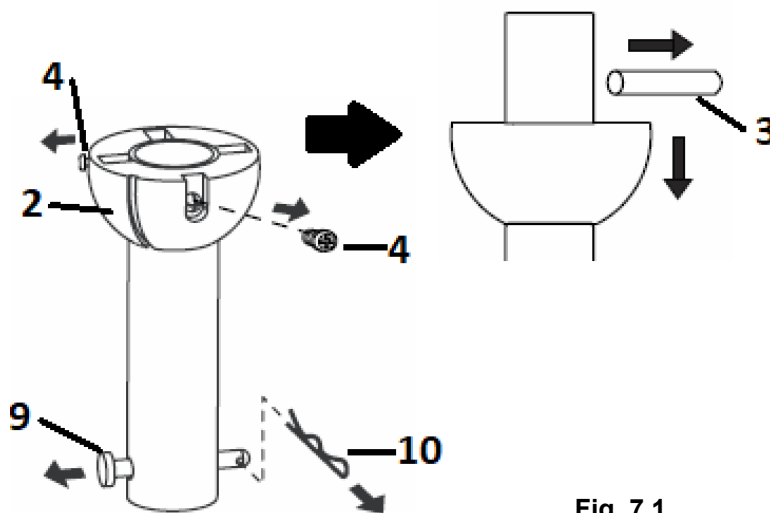

Fig. 7.1
1. Remove the ball joint (2) and dowel pin (3) by loosening the set screws (4) from the down rod (6). Remove the hitch pin (9) by removing the lock clip (10). **NOTE: Do not discard keep these parts, they are required to reassemble later. (Fig. 7.1)**